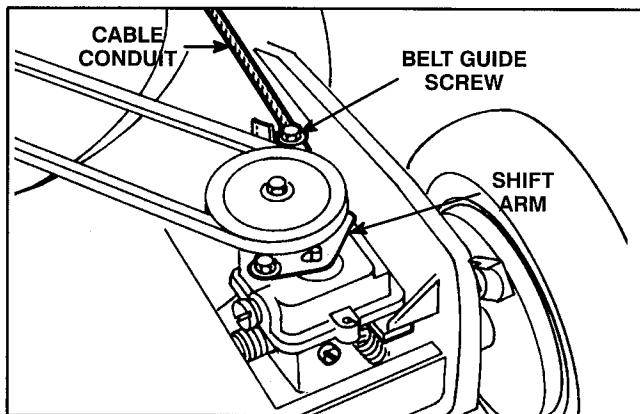

Figure 20
3. ADJUSTMENT (Fig. 20)—Loosen belt guide screw until cable conduit slides. Move handle-mounted wheel drive control to DISENGAGE position. Move shift arm toward clamp screw and hold in place. Pull cable conduit to remove slack and tighten belt guide screw.